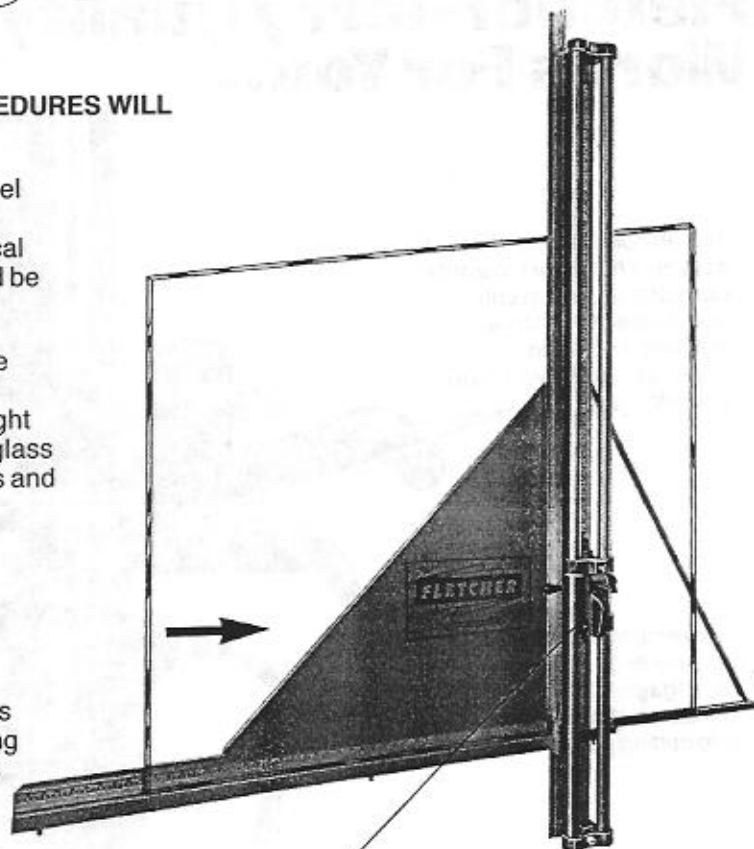

Figure 7.
- 2) Now you can rest the palm of your left hand against the glass to hold the glass against the face plate. Grasp the cutting head handle with your right hand while depressing the short trigger with your thumb. See figure 7.